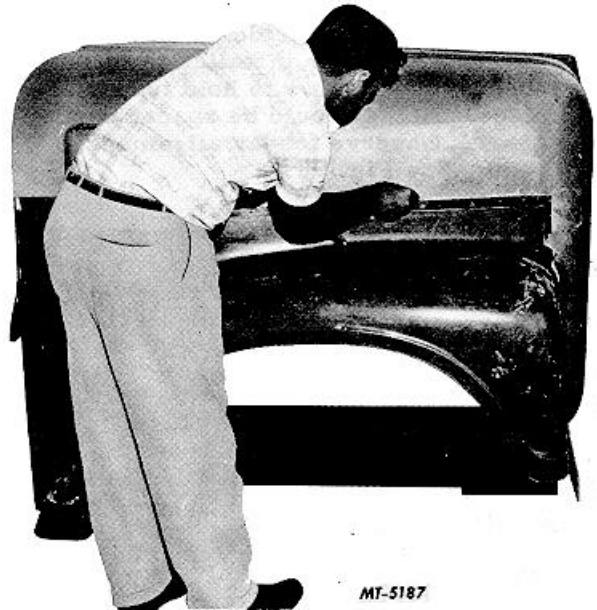

Fig. 9 Service Fender Positioning.
- Secure fender to hood with "C" clamps. Locate fender flanges to inside of hood. See Fig. 9.